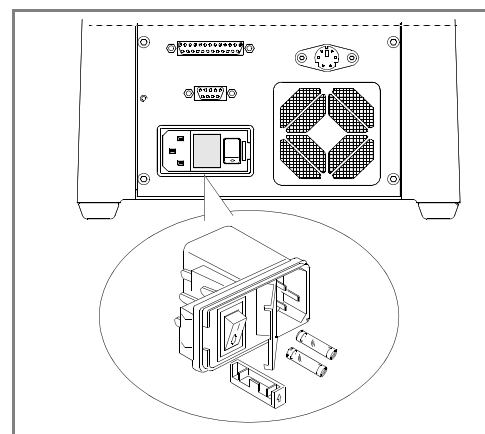

Fig. 39
situated in the power socket on the back of the machine, next to the switch (I) (fig. 39). They protect the machine from the power variations and short circuits.